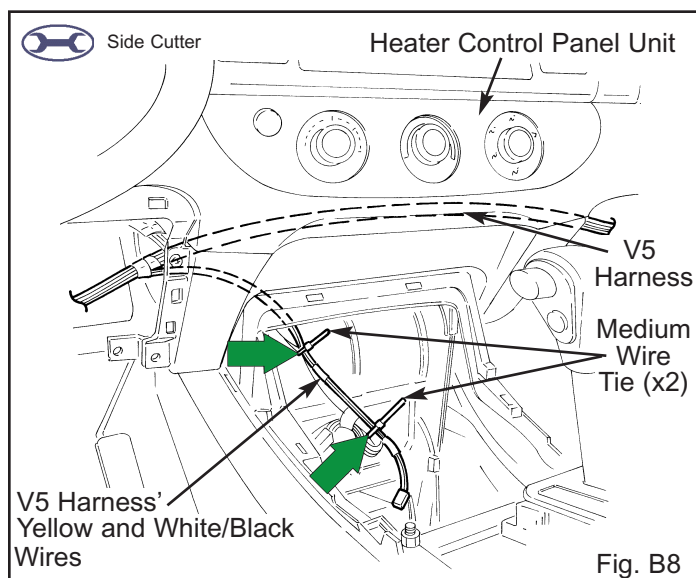

Fig. B8
11. Route the yellow and white/black wires of the V5 harness toward the console area as shown, then secure it to the vehicle harness with two medium wire ties. (Fig. B8)
12. Route the V5 harness behind the heater control panel unit, through the passenger side of the vehicle. (Fig. B8)